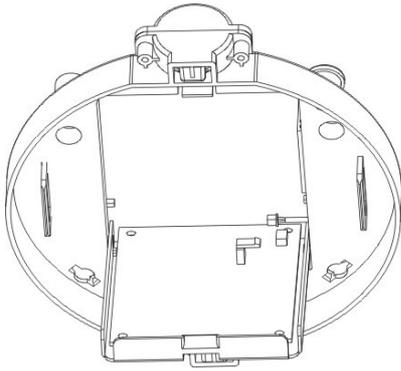

Fig.3
1. open the access door of connection inside of the custody (fig 3.)